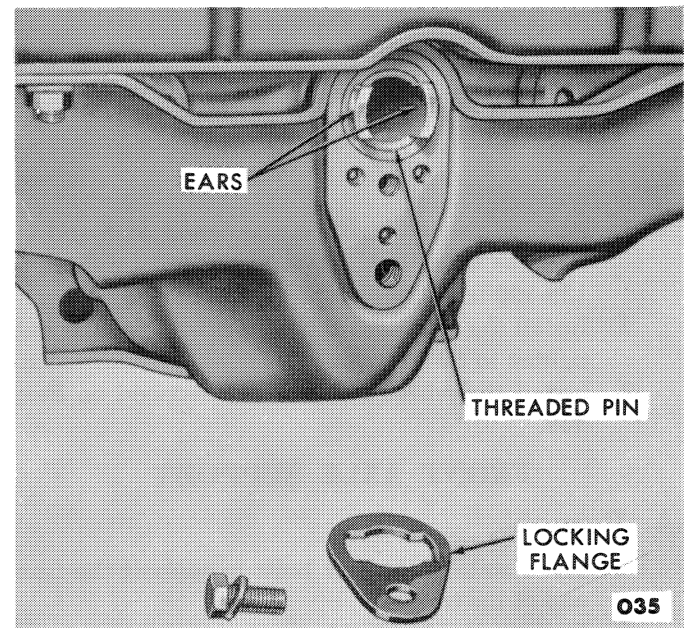

Figure 7—Threaded Axle Pin
- a. Remove the bolt and lock washer securing the locking flange to the front support and remove the snap ring and locking flange, Figure 7.